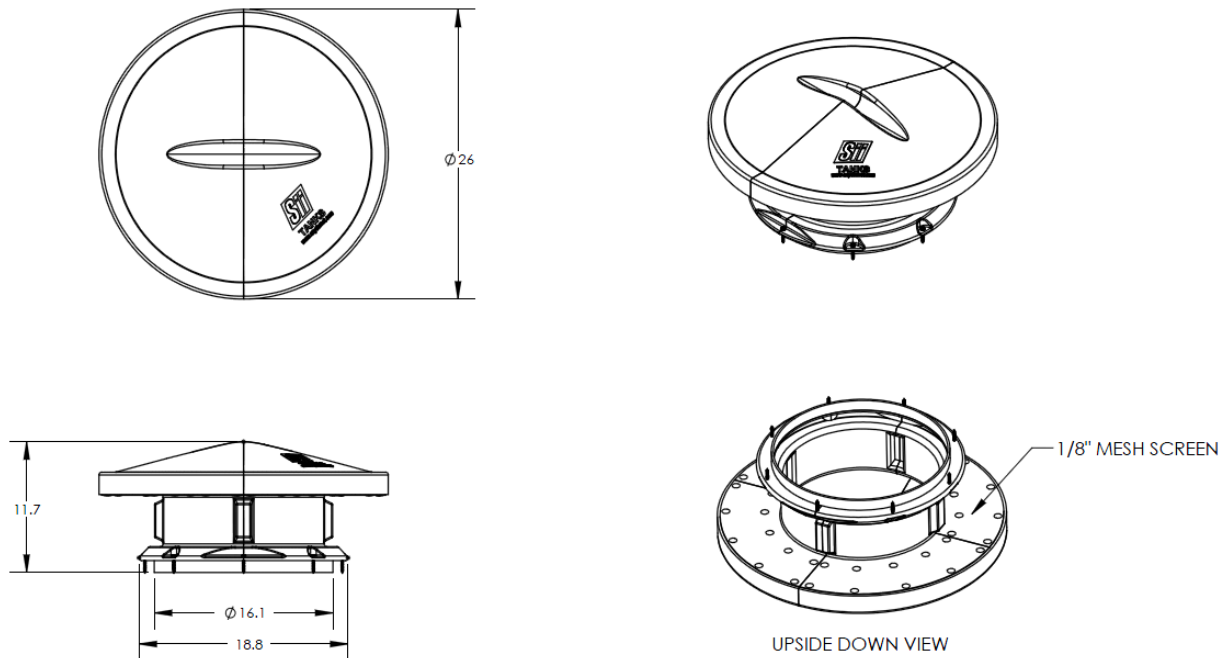

Figure 7.2.2
7.2.2 The 18" mushroom vent (fig 7.2.2) is a solution to undersized venting problems. Such as: in cases of pneumatic filling. It's a rotationally molded 18" vent that can be attached to any tank that has at least 19" diameter of flat area. The vent is installed by simply cutting the hole and attaching it with the 8 screws provided and sealing with silicone.